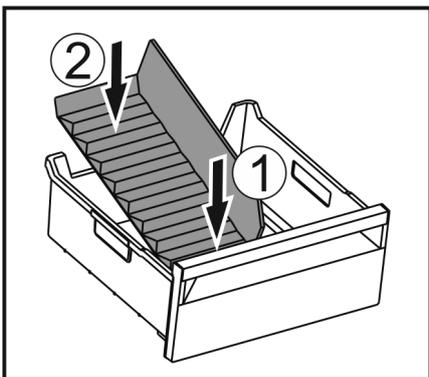

Fig. 71
- ▶ Insert the front part of the ice compartment divider. Fig. 71 (1)
- ▶ Lower the rear part of the ice compartment divider to the drawer bottom. Fig. 71 (2)